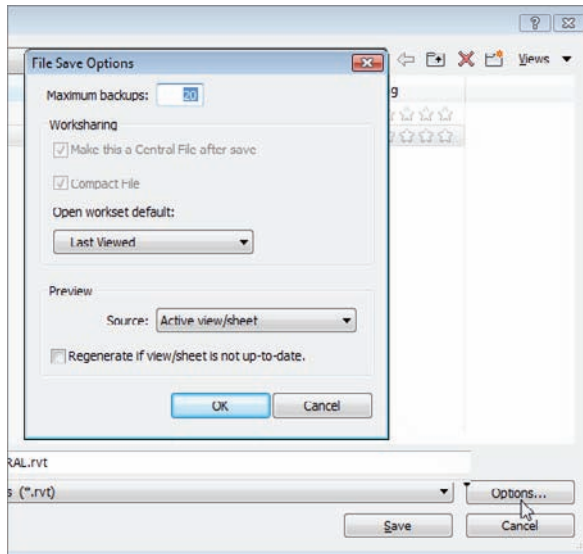

FIGURE 22.6 Modifying the settings before you save the file
3. In the File Save Options dialog, change Maximum Backups to 1 (see Figure 22.6).